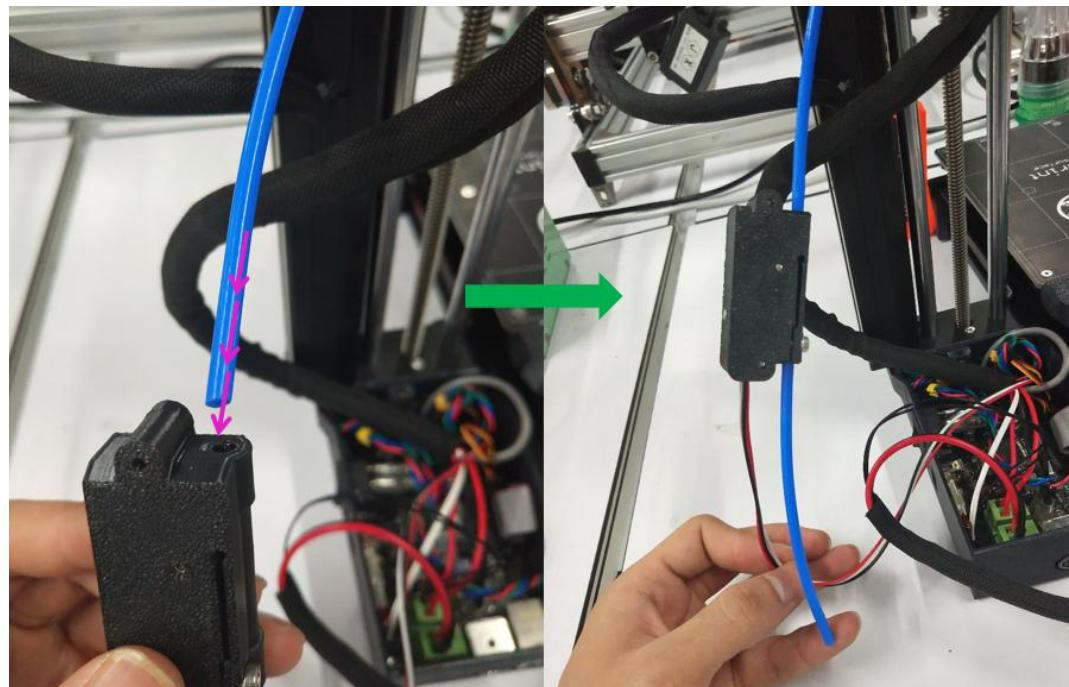

Figure 5.2.4
- C: As shown in Figure 5.2.4. Insert the other end of the material breakage detection into the extruder Teflon tube.